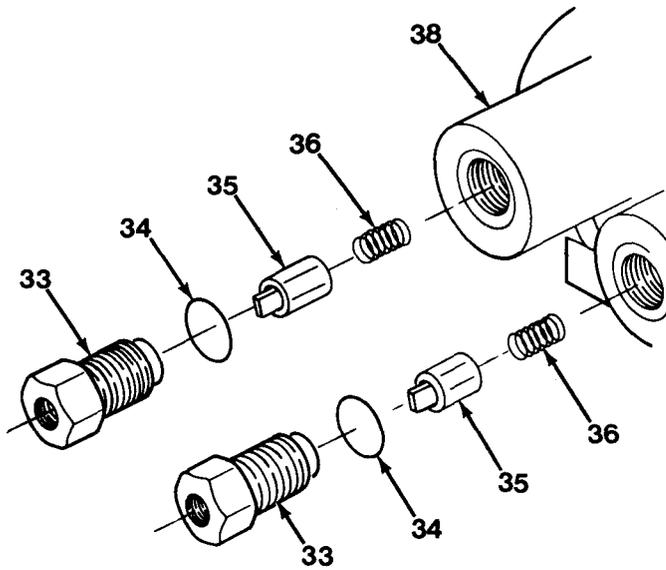

Figure 13-9
21. Remove two adapters (33), two O-rings (34), two valves (35) and two springs (36) from housing (38, Figure 13-9). Discard two O-rings (34).
2. Install two springs (36), valves (35), new O-rings (34) and adapters (33, Figure 13-9).